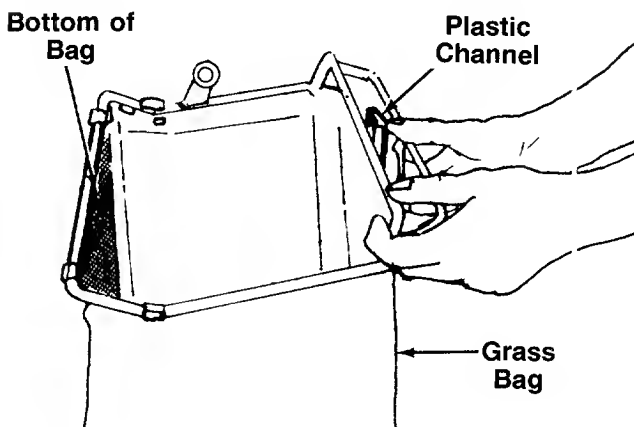

FIGURE 12.
4. Secure bag to frame by slipping plastic channels on bag over frame. See figure 12.